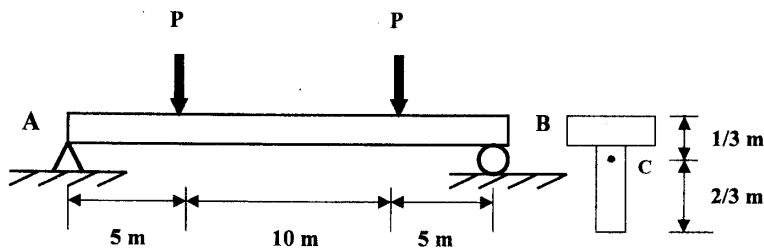

Figure 2
2. The beam is made of a material having an allowable bending stress of $(\sigma_{\text{allow}})_c = 5 \text{ kpa}$ in compression and $(\sigma_{\text{allow}})_t = 15 \text{ kpa}$ in tension. The cross section of the beam is a T type with the moment of inertia $I = 2/3 \text{ m}^4$ and the centroid of cross section C shown in figure 2.